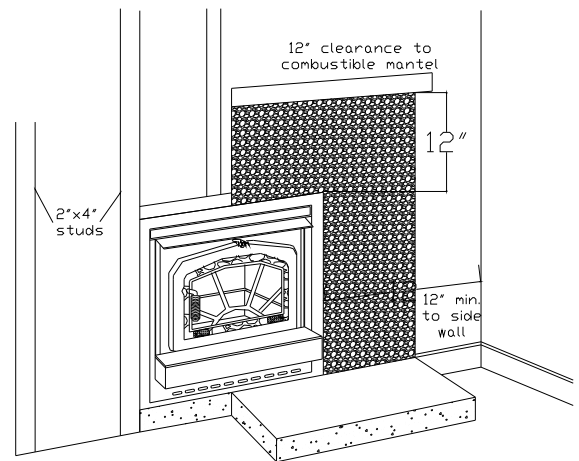

FIGURE 5
C) Finish construction around the unit (FIGURE 5).